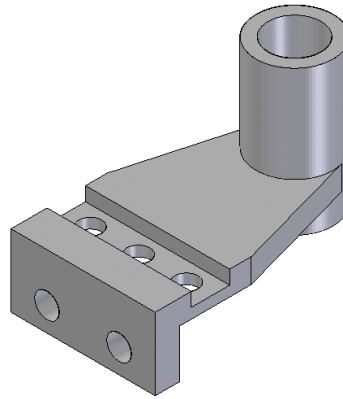

Figure 5-57 Final model for Tutorial 1
- Similarly, create the remaining cutouts to complete the model, refer to Figure 5-57.
1. Similarly, create the remaining two cutouts. The model, after creating all features, is shown in Figure 5-57.